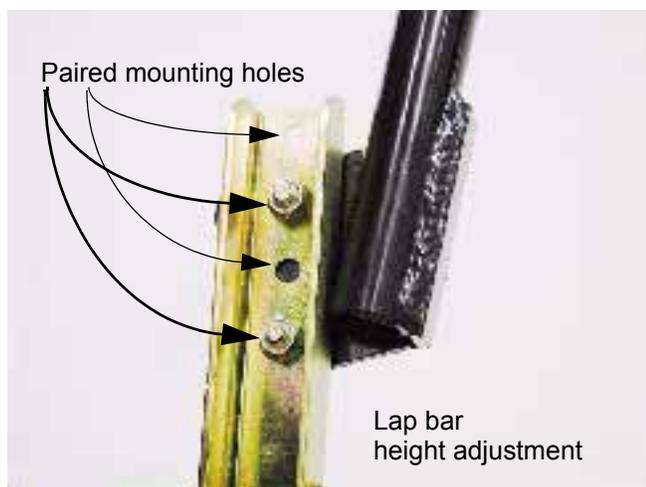

Figure 7.1
- 7.1. Using a 1/2" socket and 1/2" wrench, adjust lap bars up and down by installing the bolts that hold the lap bar to the steering pivot bracket in a different set of holes. Install the bolts snugly enough that each lap bar can pivoted on the lower mounting bolt with light effort. See Figure 7.1.